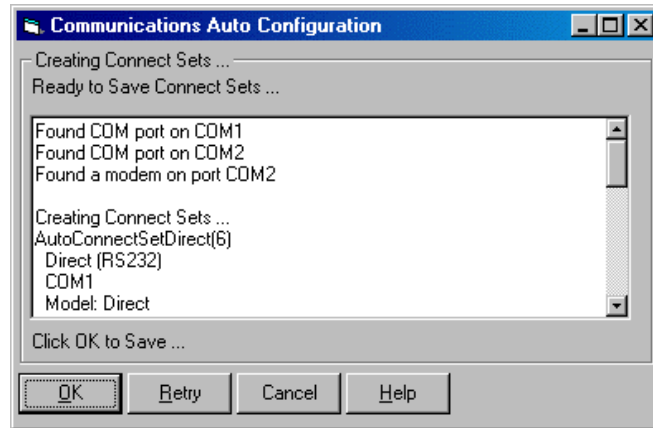

Figure 5: Connect Sets and Modem Configuration Window
- 1 At the main window, select **Auto Configure** under the **C**ommunication menu option. You will arrive at the Communications Auto Configuration screen (see Figure 5).